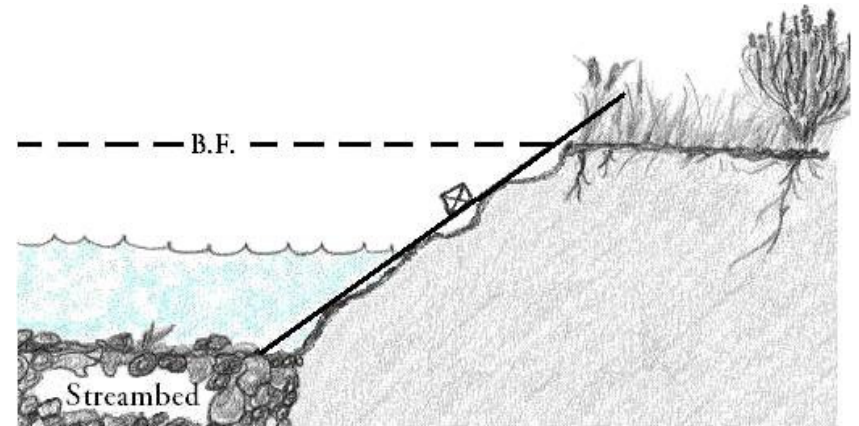

Figure 28. Measure the angle of banks with 3 or more angles by laying the rod along outer edges.
- Measure the average angle by laying the depth rod along the outer corner of the steps (Figure 28).